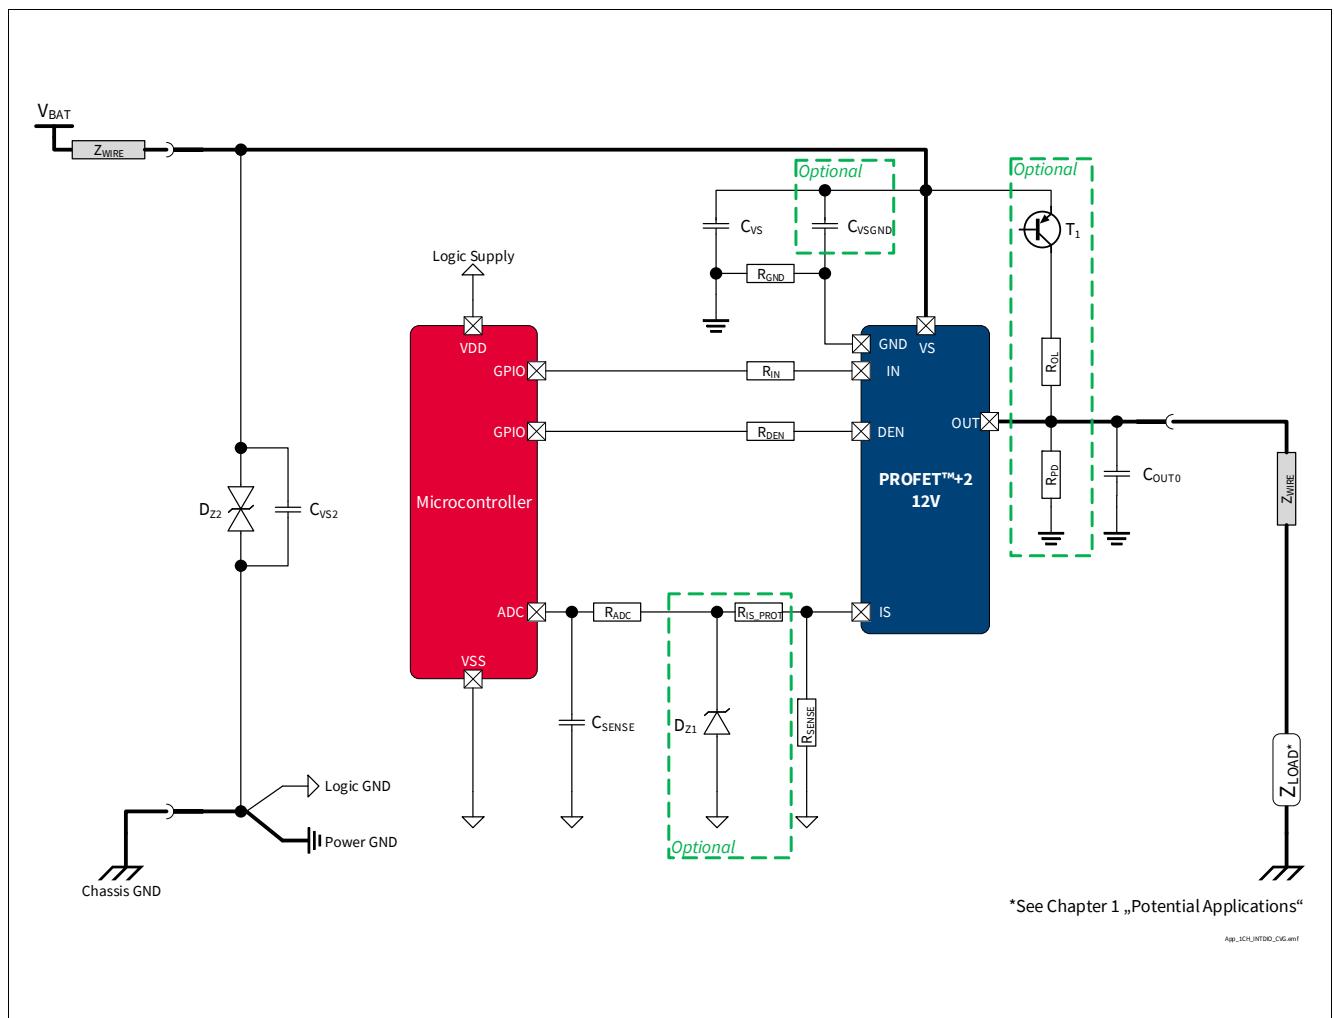

Figure 37 **BTS7002-1EPP Application Diagram**
1.04 , 2019-10-15	P_6.5.20.1 updated (Typ.: 0.01 μA $\rightarrow$ 0.1 μA) P_8.7.10.1, P_8.7.10.7, P_8.7.10.8 updated (added in Note or Test Condition: link to Figure 24) P_7.5.10.5 updated (added in Note or Test Condition: see Figure 18) P_7.5.10.12 updated (added in Note or Test Condition: see Figure 20; deleted unnecessary space in Symbol: $dV_{OUT} / dt \rightarrow dV_{OUT} / dt$) P_8.7.10.6 updated (added in Note or Test Condition: see Figure 25) P_9.7.10.1 updated (added in Note or Test Condition: see Figure 32) Figure 1, Figure 37 updated P_4.3.0.7 added Table 22 updated Chapter 5.1 updated (added: see Chapter 10 for the complete application setup overview) Chapter 9.2 updated (2 V $\rightarrow$ $V_{DS(OFF)}$) General: updated (ReverSave™ $\rightarrow$ ReverseON)
1.01 , 2018-06-14	Page numbering corrected Figure Application Diagram, Figure 29, Figure 37 updated